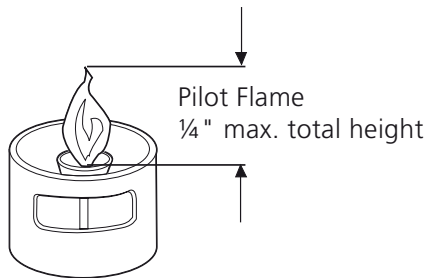

Figure 14
5. Adjust pilot flame between $\frac{1}{8}$ " and $\frac{1}{4}$ " (see figure 14) so that a slight tinge of yellow appears at the top.